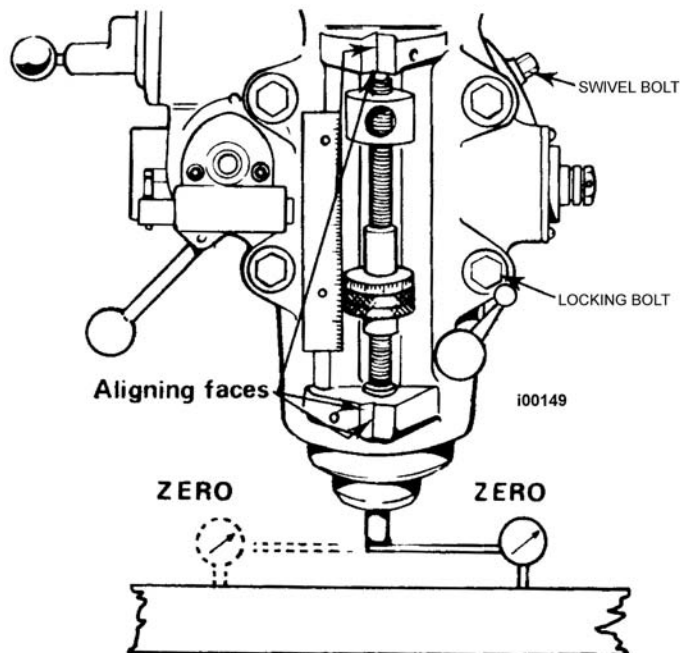

Figure 5-45
4. Use the method shown in Figure 5-45 and a parallel bar to square the head to the table.